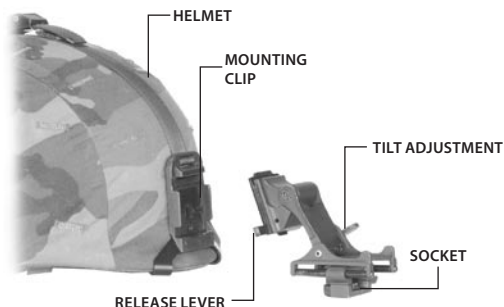

FIGURE 3-9. QUICK DISCONNECT HELMET MOUNT FEATURES
1. Remove the helmet mount assembly from the carrying case. Make sure the helmet mount is complete. Refer to Figure 3-9 for helmet mount components and features.
6. If the PASGT helmet has its cloth cover and camouflage strap installed, it will be necessary to slide the camouflage strap up (at an approximately 30°-45° angle) at the front of the helmet (see Figure 3-9).
10. To install the mount assembly into the clip/ strap assembly, slide its top flange into the top groove of the mounting clip and press the mount assembly bottom until it locks into place with a click (see Figure 3-9).